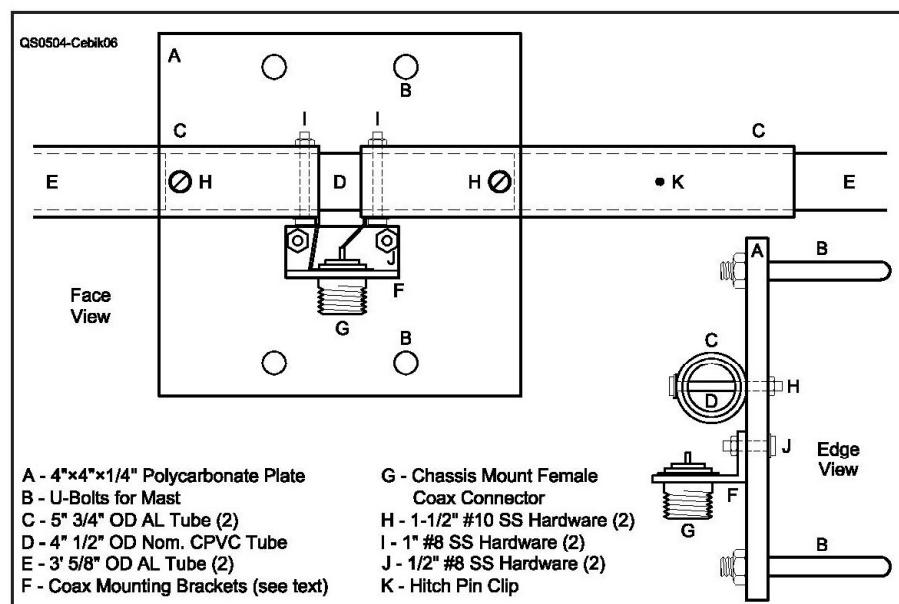

Figure 5—The element and feed-point mounting plate, with details of the construction used in the prototype.
For this field antenna, the hitch pin clip junctions, shown in Figure 5, hold the element sections in position. The overlapping portions of the tube make the actual electrical contact between sections. Due to the effects of weather, junctions of this type are not suitable for a permanent installa-
2. The center hub: mounting and feed-point assembly. I constructed the plate for mounting the element and the mast from a $4 \times 4 \times 1/4$ inch thick scrap of polycarbonate (trade name Lexan), as shown in Figure 5. You may use other materials as long as they will handle the element weight and stand up to field conditions.
I mounted a single-hole female UHF connector on a bracket made from a scrap of $1/16$ inch thick L-stock that is 1 inch on a side. I drilled the UHF mounting hole first, before cutting the L-stock to length and trimming part of the mounting side. Then I drilled 2 holes for $1/2$ inch long #8 stainless steel bolts about 1 inch apart, for a total length of L-stock of about $1\frac{1}{2}$ inches. The reason for the wide strip is to place the bolt heads for the bracket outside the area where the mast will meet the plate on the back side. Note in Figure 5 that the bracket nuts are on the bracket-side of the main plate, with the heads facing the mast. The bracket-to-plate mounting edge of the bracket needs to be